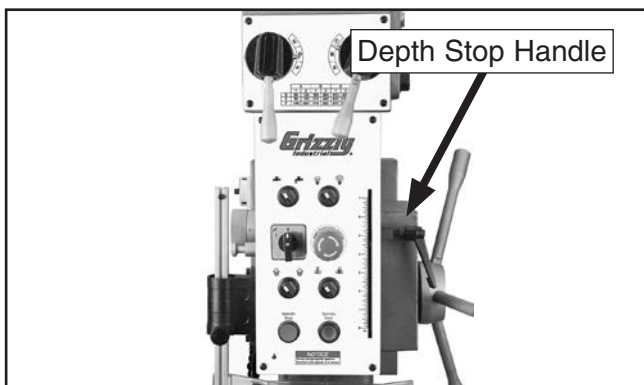

Figure 19. Setting depth stop handle.
6. Loosen the depth stop handle, move the drill bit to the required drilling depth, and tighten it (see **Figure 19**).